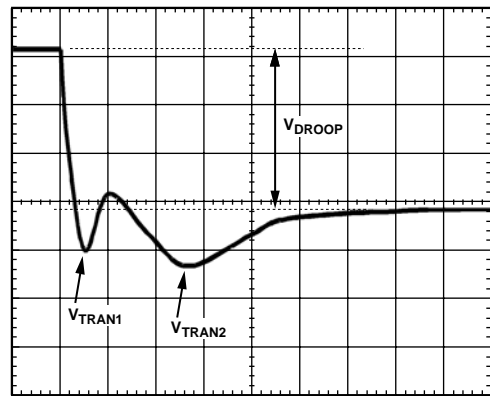

Figure 18. Transient Setting Waveform
- With the dynamic load still set at the maximum step size, expand the scope time scale to see 2  $\mu\text{s}/\text{div}$  to 5  $\mu\text{s}/\text{div}$ . The waveform can have two overshoots and one minor undershoot (see Figure 18). Here,  $V_{DROOP}$  is the final desired value.